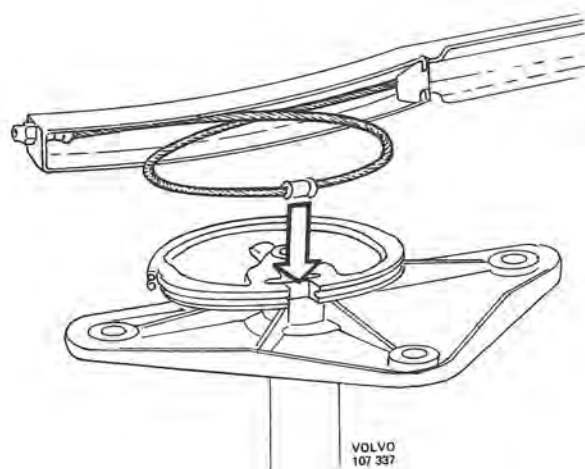

Fig. 3-99. Installing cable for drive link and parallel drive link, left-hand side
1. Place the cable's flange nipple in the segment recess and then lever cable over the segment, see Fig. 3-99. This work should be done with the greatest care in order not to score the segment or damage it in any other way, as this would lead to disturbance in operation.
1. Place the cable's flange nipple in the large segment recess and thereafter prise the cable over the segment, see Fig. 3-99. Great care should be observed when doing this in order not to score the segment or damage it in any other way, otherwise this might lead to disturbance in operation.
2. Place the drive link cable's flange nipple in the front segment recess and thereafter prise the cable over the segment, see Fig. 3-99. Fit the drive link to the lever on the wiper motor. Tension the cable.